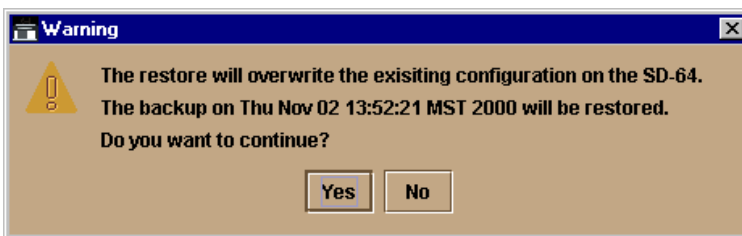

Figure 3-34: Warning Dialog Box
6. Click Restore. A Warning message box (Figure 3-34) displays.